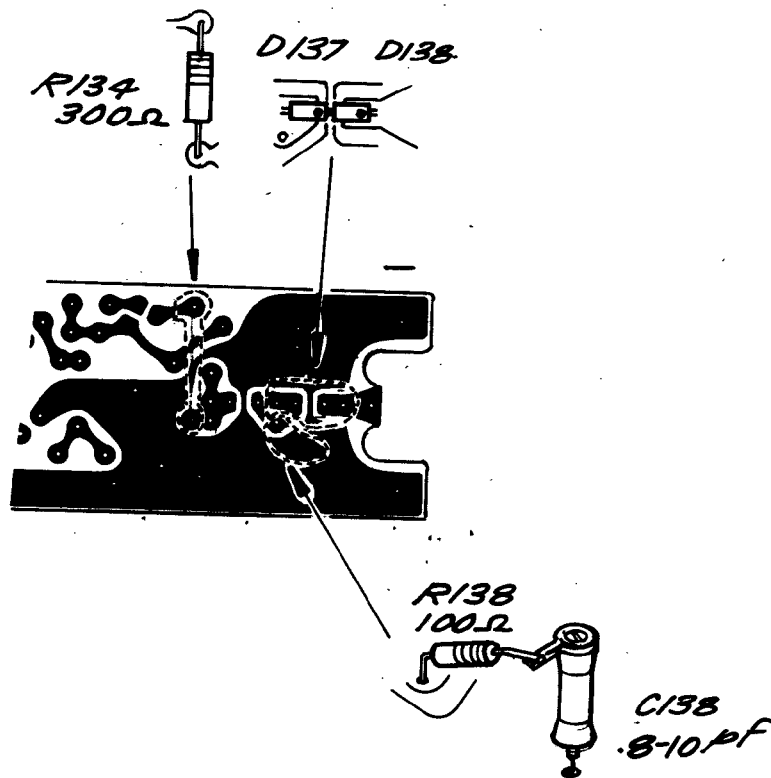

FIG. 2
TO REPLACE D137-D138 ON THE - FAST RISE OUTPUT BOARD. SEE FIG. 2.
- ( ) 7.⊕ Install D137-D138, two clip mounted silicon diodes. Install with cathodes (dots) as shown in Fig. 2.